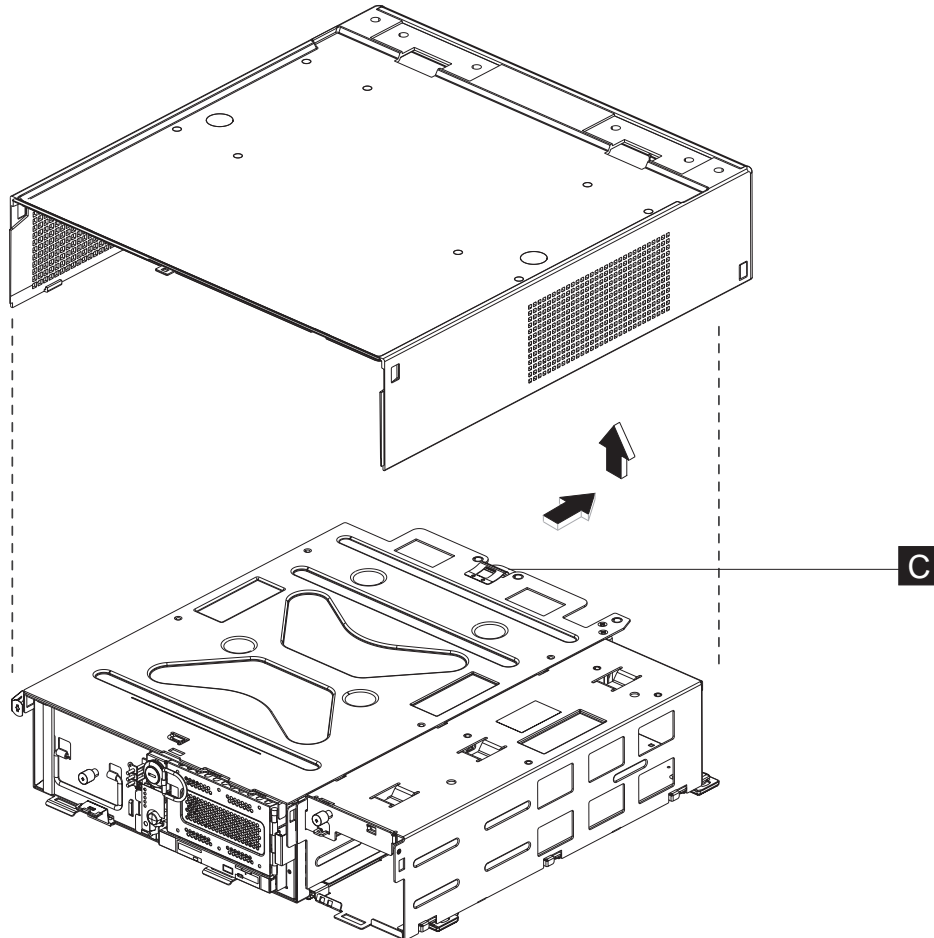

Figure 18. Removing the top cover
1. Locate the metal holding clip located in the rear center of the top cover ( **A** in Figure 18).